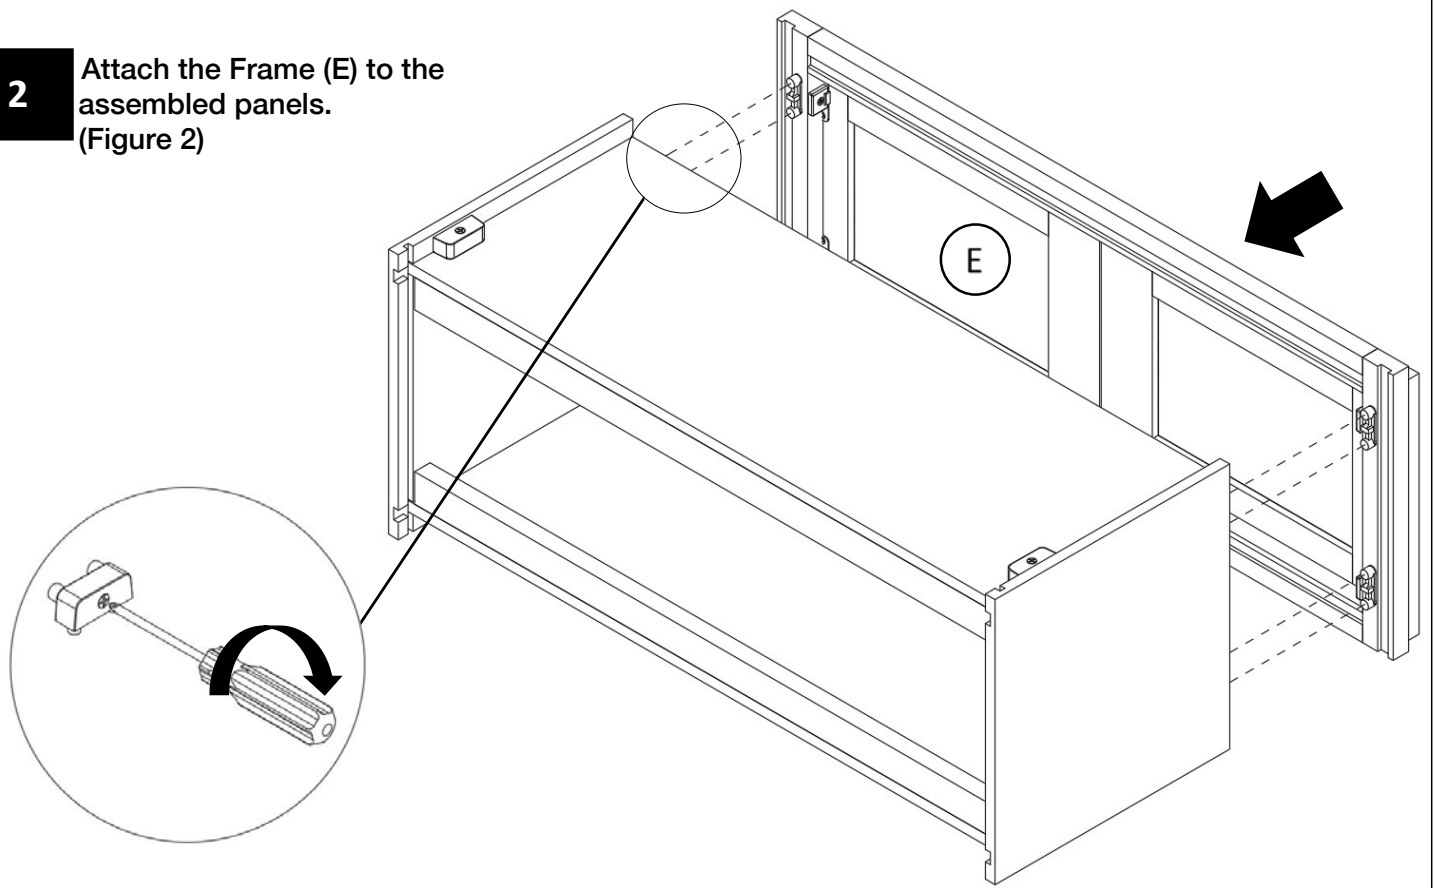

Figure 2
Attach the Frame (E) to the assembled panels. (Figure 2)